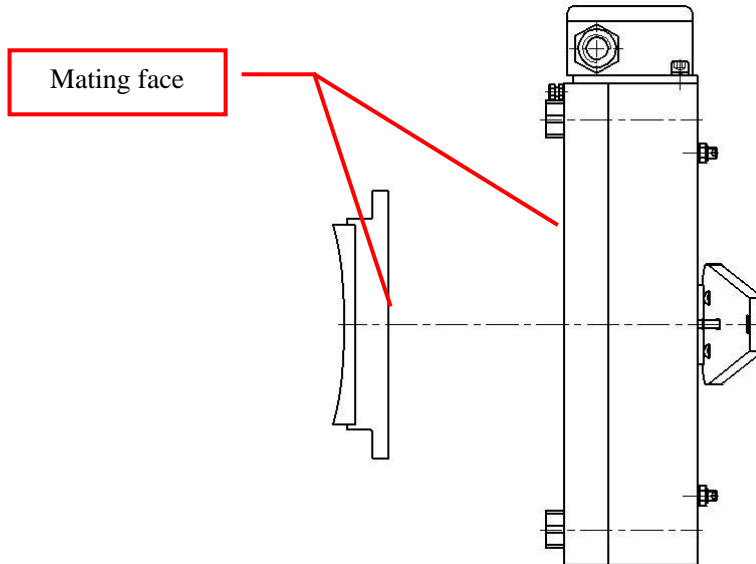

Figure 23: Clean mating surfaces
1. Clean the mating surfaces of the brake lining and brake with an alcohol based cleaner. See Figure 23.